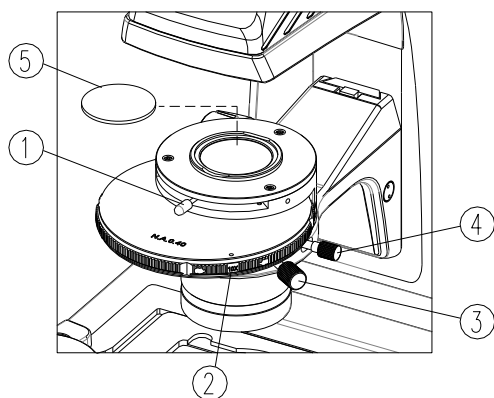

Fig.6 Adjustment of Aperture Diaphragm and Placement Of filter
3.1.2 Aperture Diaphragm (Fig.6)
- c. Adjust centring screw (Fig.6) to make field diaphragm coincide with field , fasten the thumb screw (Fig.6),adjust field diaphragm to make image edge
3.1.4 Usage of Filter (Fig.6)